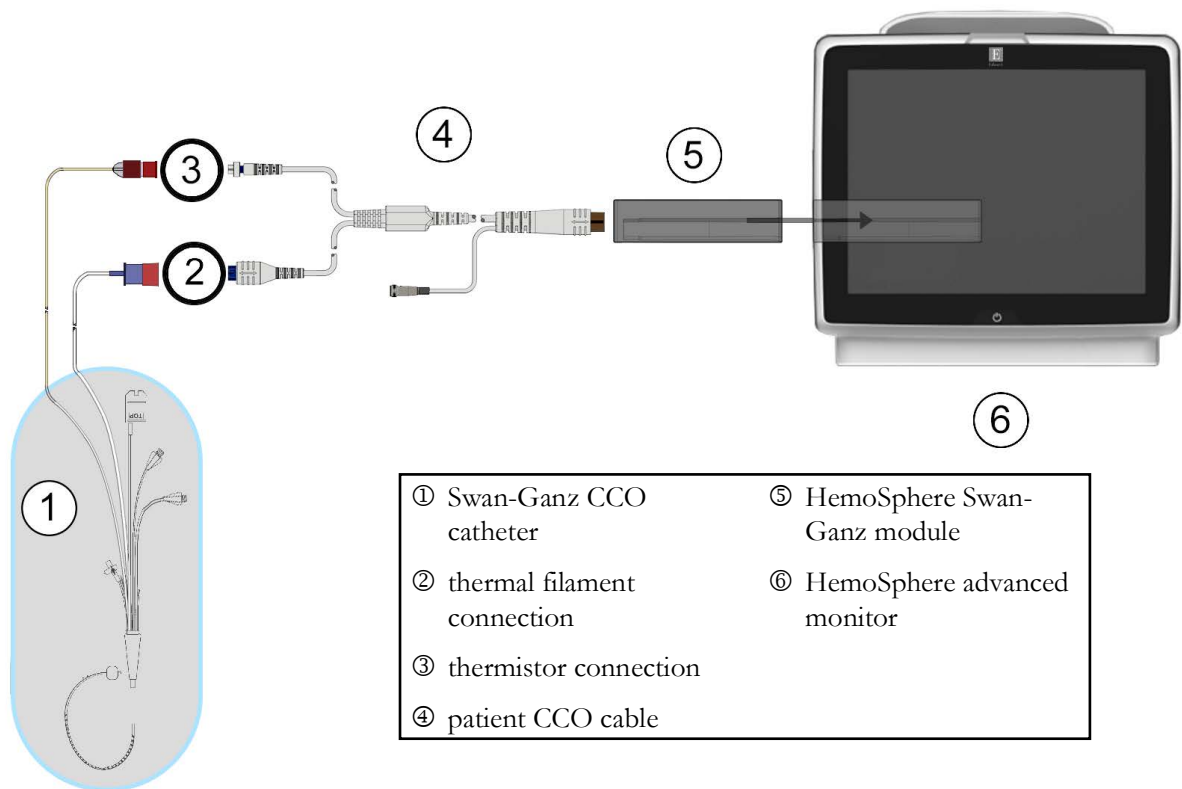

Figure 9-4 CO connection overview
- 2 Attach the catheter end of the patient cable to the thermistor and thermal filament connectors on the Swan-Ganz CCO catheter. These connections are emphasized as numbers ② and ③ in figure 9-4 on page 167.